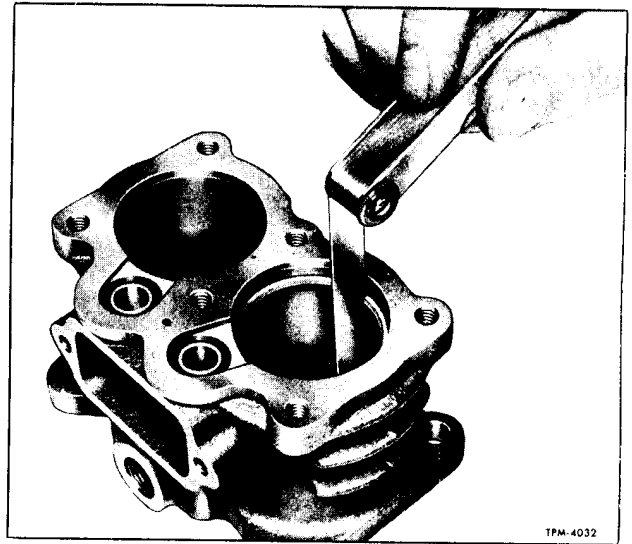
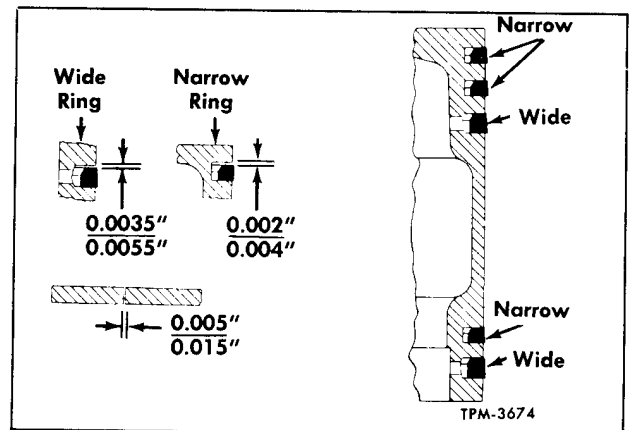

Figure 11—Measuring Piston Ring Gap
Figure 12—Piston Ring Arrangement and Clearances
10. Piston Rings (Fig. 11). Check fit of piston rings in ring grooves, and check ring gap with ring in cylinder bore. Clearance between rings and sides of ring grooves should be from 0.0035" to 0.0055" for two wide rings and from 0.002" to 0.004" for three narrow rings as shown in figure 12. Ring gap should be from 0.005" to 0.015".
3. Install piston rings in grooves of pistons. Rings must be installed in proper location and with pip marks upward. Refer to figure 12 for proper clearance dimensions and location of rings. Stagger position of ring gaps outside of inlet throat area.